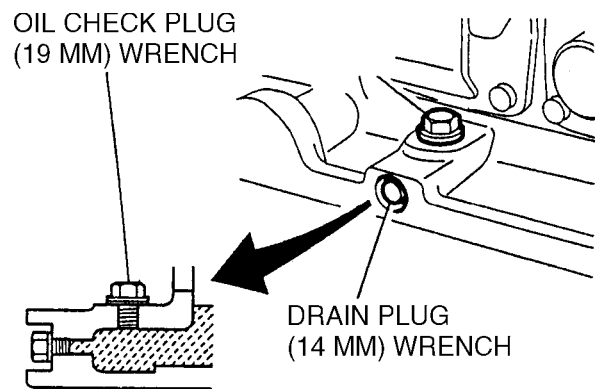

Figure 26. Vibrator Oil Maintenance
1. In every 100 hours of operation, with the machine positioned horizontally, remove vibrator oil level check plug (Figure 26) off vibrator (19 mm wrench) and see if oil is up to filler port. Be sure to clean area around check hole to prevent dirt and dust from entering.